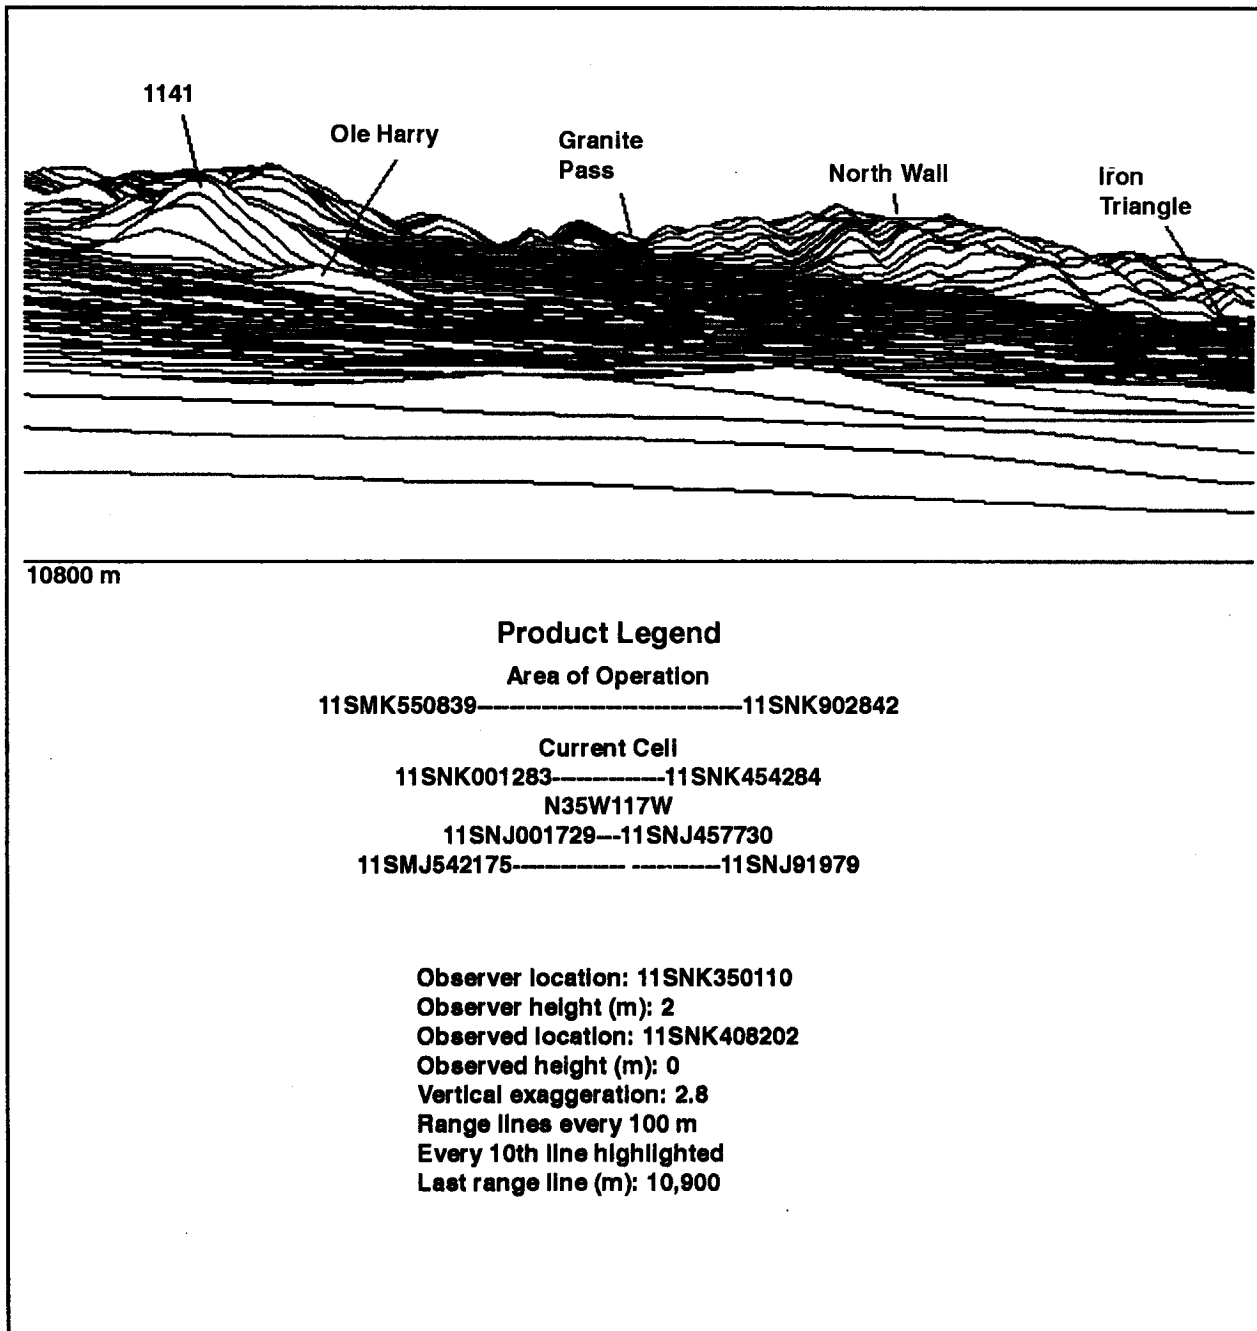

Figure C-6. Perspective view
- Perspective view. This product is also a three-dimensional view that shows what people would see if they were actually standing on the ground or hovering in a helicopter at a given location. The user must provide a six-digit coordinate for the observer location, a height of up to 1,500 meters (man size = 2 meters), and a six-digit coordinate of the target area to be observed (this can also be expressed as a cardinal direction in degrees). This product is used to show the commander and his staff the terrain of a specific area as seen from the ground (see *Figure C-6, page C-8*).